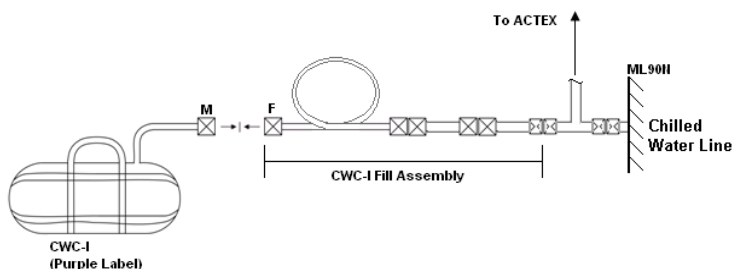

Figure 9-4.- CWC-I fill setup.
5. CWC-I →|← CWC-I Fill Assembly (see fig 9-4)